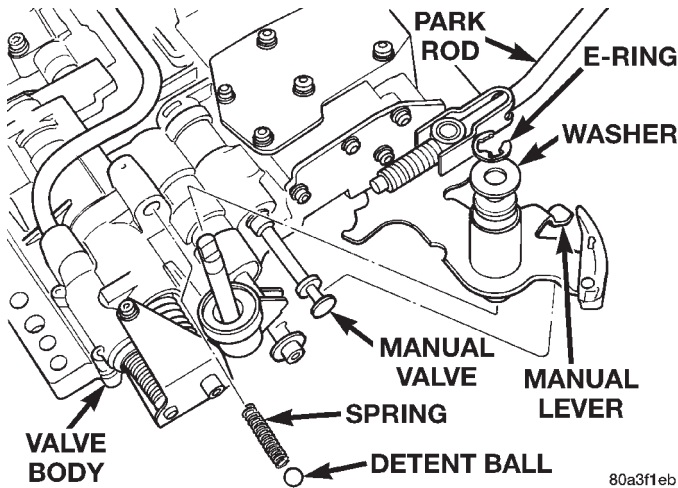

Fig. 70 Manual And Throttle Levers
(42) Insert throttle lever through transfer plate side of valve body and upward (Fig. 70).
(44) Install seal, washer, and E-clip to retain manual shaft to valve body (Fig. 70).